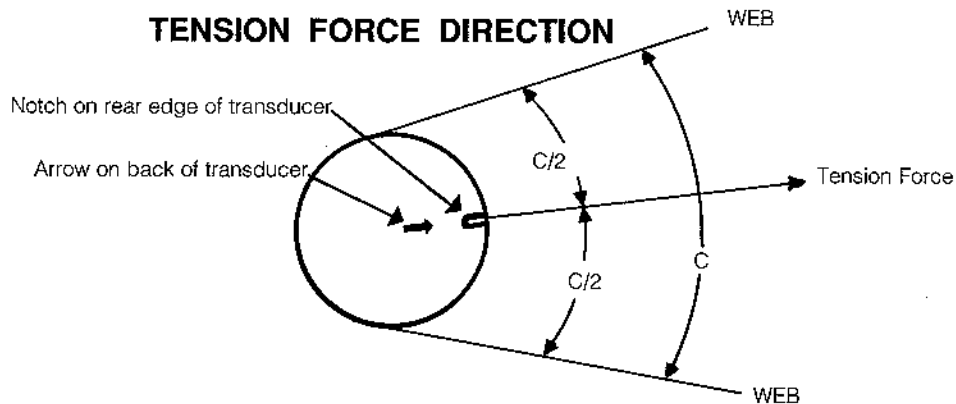

FIGURE 8
4.4 ORIENT THE TRANSDUCERS (see Figure 8.)
6. Slide the transducer into the PB bracket and turn it so the arrow on the connector block bisects the wrap angle. See Figure 8.